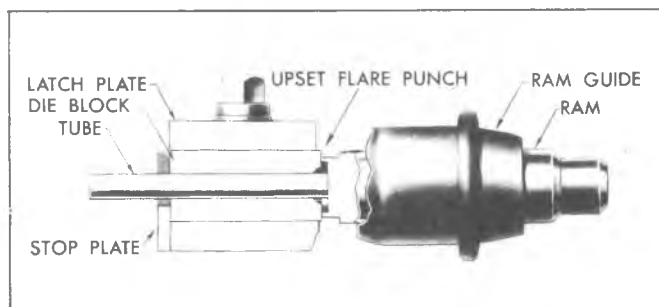

Fig. 11—Positioning Tube
5. Slip the punch into the tool body with the gauge end toward the die blocks, install the ram and tap lightly until the punch meets the die blocks and they are forced securely against the stop plate (fig. 11).